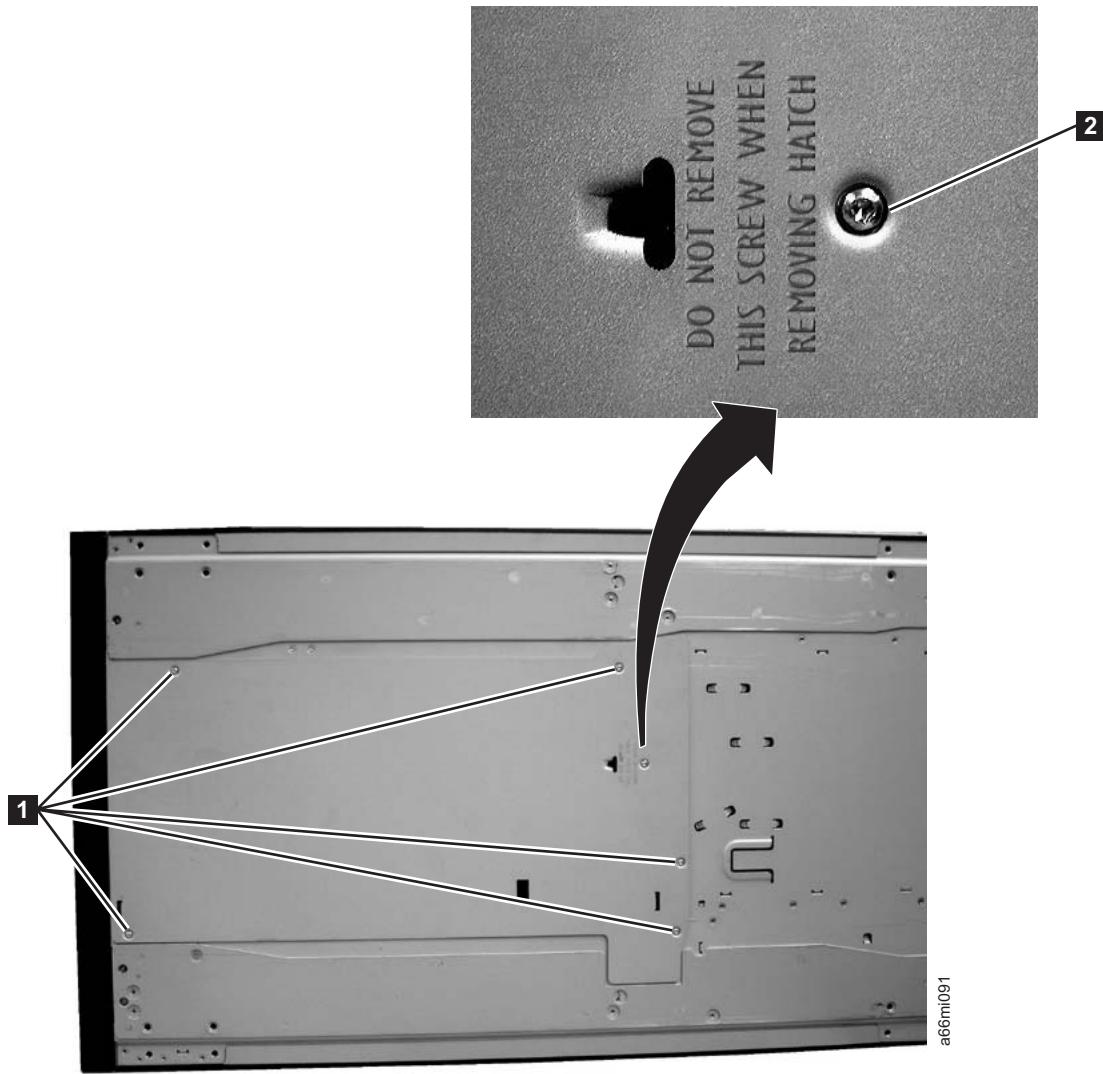

Figure 3-7. Bottom cover of the 5U control module
2. Turn the 5U control module on its side and remove the 5 - T10 Torx bottom cover screws (**1** in Figure 3-7 on page 3-9).
Important: DO NOT loosen or remove the screw holding the home sensor (**2** in Figure 3-7 on page 3-9). This screw has the same T10 Torx head as the cover screws, but it is longer and has a coarse thread for screwing into the plastic home sensor.